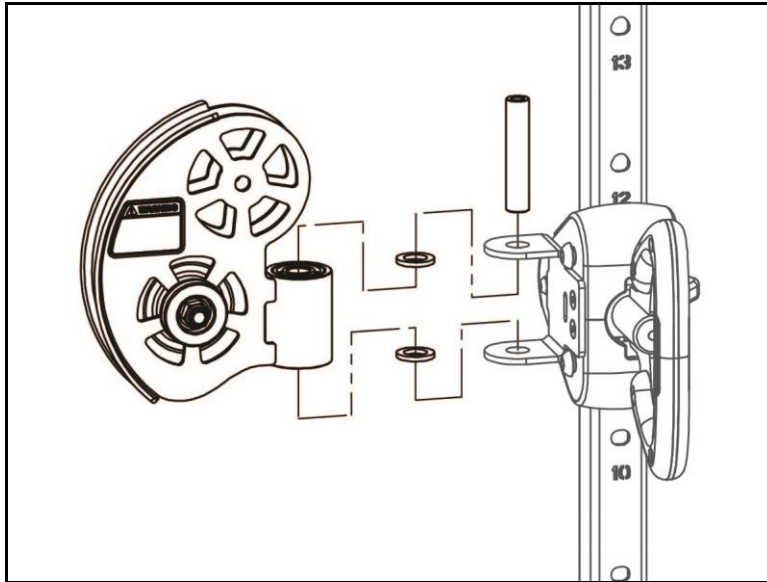

Fig. 3
- Slide out the inner race sleeve (Fig. 3) to separate the pulley bracket from the carriage assembly; two spacers will come loose in the process.